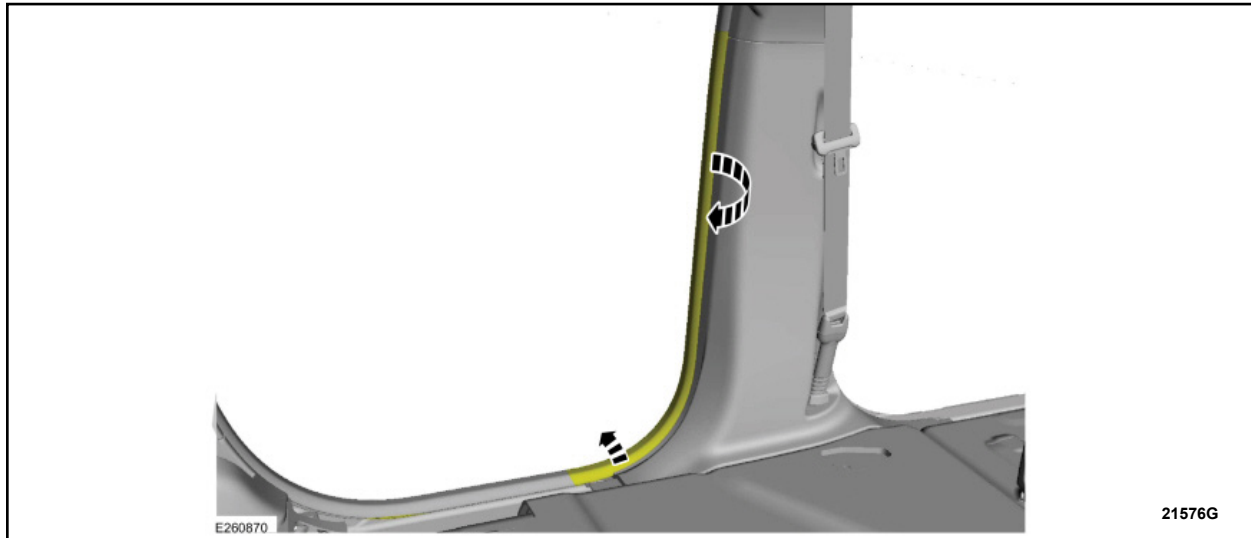

FIGURE 7
7. Position the rear door weatherstrip aside. See Figure 7.